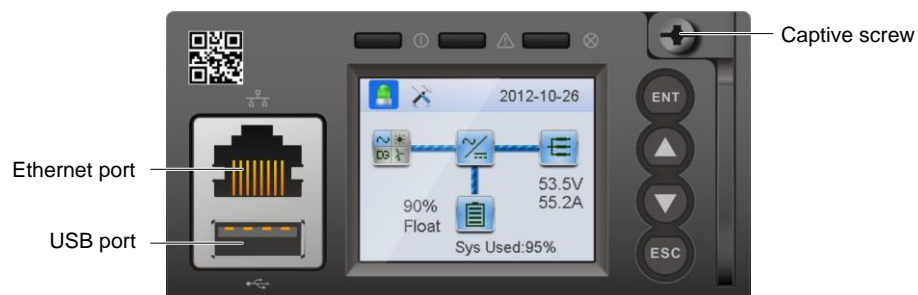

Figure 4-4 M221S/M222S Controller replacement
- Loosen the captive screw of the controller, as shown in Figure 4-4.